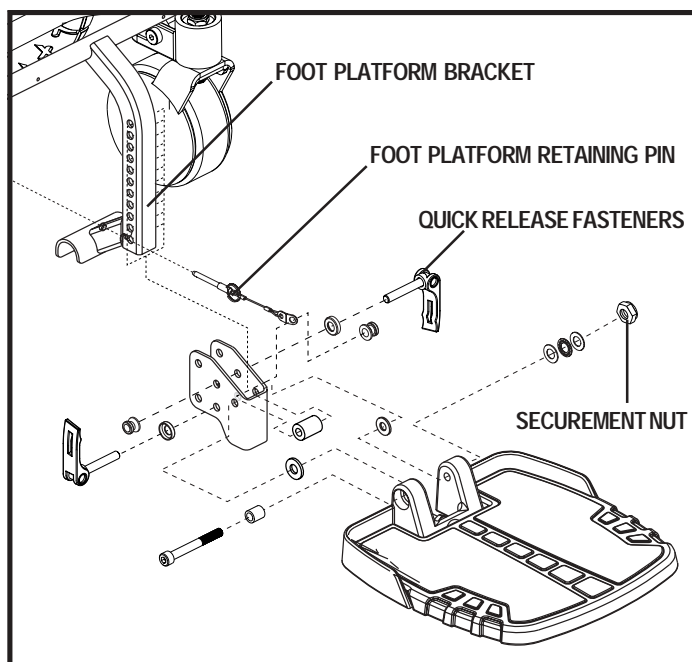
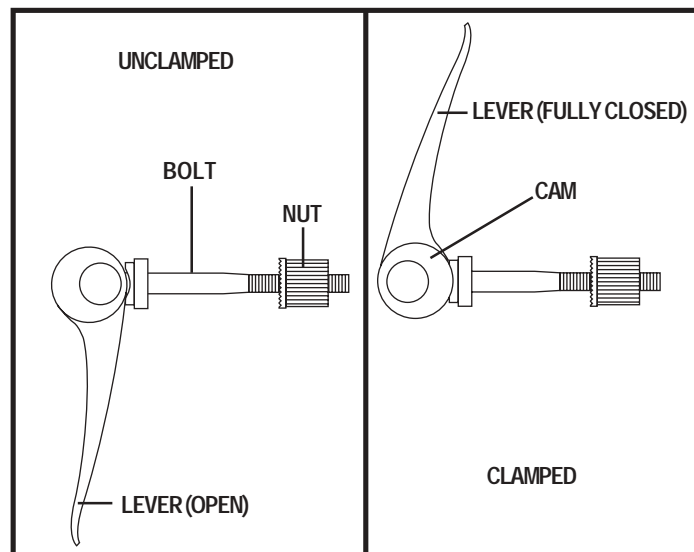

Figure 17. Foot Platform Adjustment
Figure 18. Quick Release Fastener Operation
1. Remove the quick release fasteners from the foot platform bracket. See figure 17.
Quick Release Fasteners: The foot platform is attached to the power base with two quick release fasteners. See figure 17. Each quick release fastener consists of a bolt, a lever, and a nut. See figure 18. The lever has a cam on the end that allows it to clamp into place. The quick release fastener has two states: clamped and unclamped. When the lever is open, the quick release fastener is unclamped. When the lever is closed, the quick release fastener is clamped.